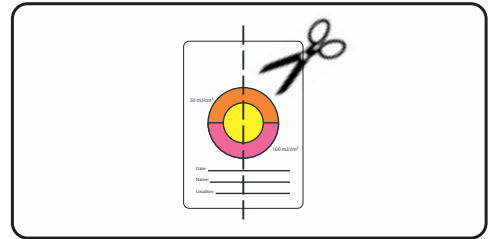

Figure 2 - Cut dosimeter down the middle
1. Cut the dosimeter card down the middle as shown in Figure 2. This will extend the amount of testing cards for checking your germicidal radiation. Cutting the card will not impact the card's function.